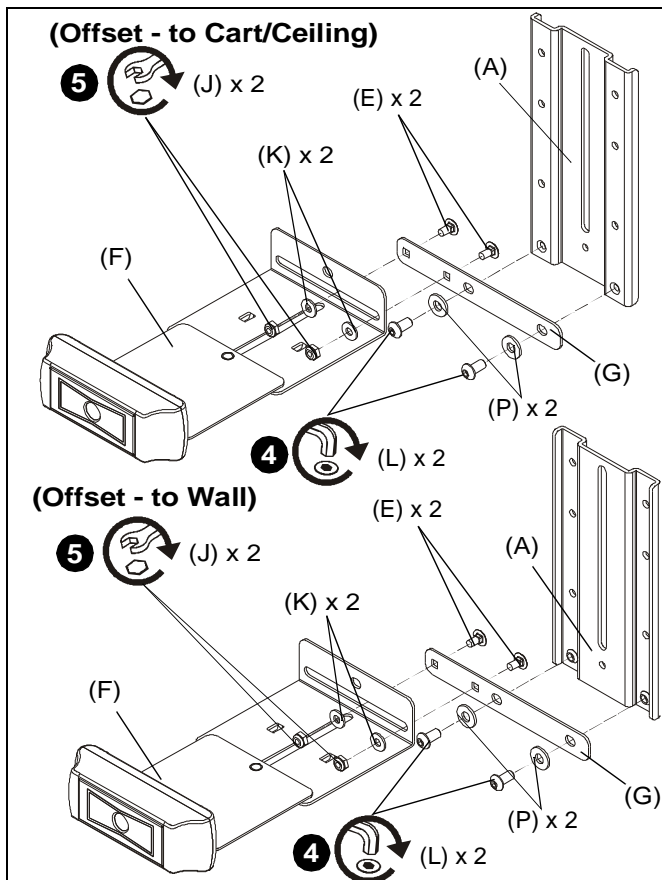

Figure 20
4. **(Offset)** Use two 1/4-20 x 1/2" button head cap screws (L) and two large washers (P) to secure horizontal bracket (G) to upright bracket (A). (See Figure 20)
5. **(Offset)** Use two #10-24 lock nuts (J), two small washers (K) and two round head carriage bolts (E) to secure camera mount (F) to horizontal bracket (G). (See Figure 20)